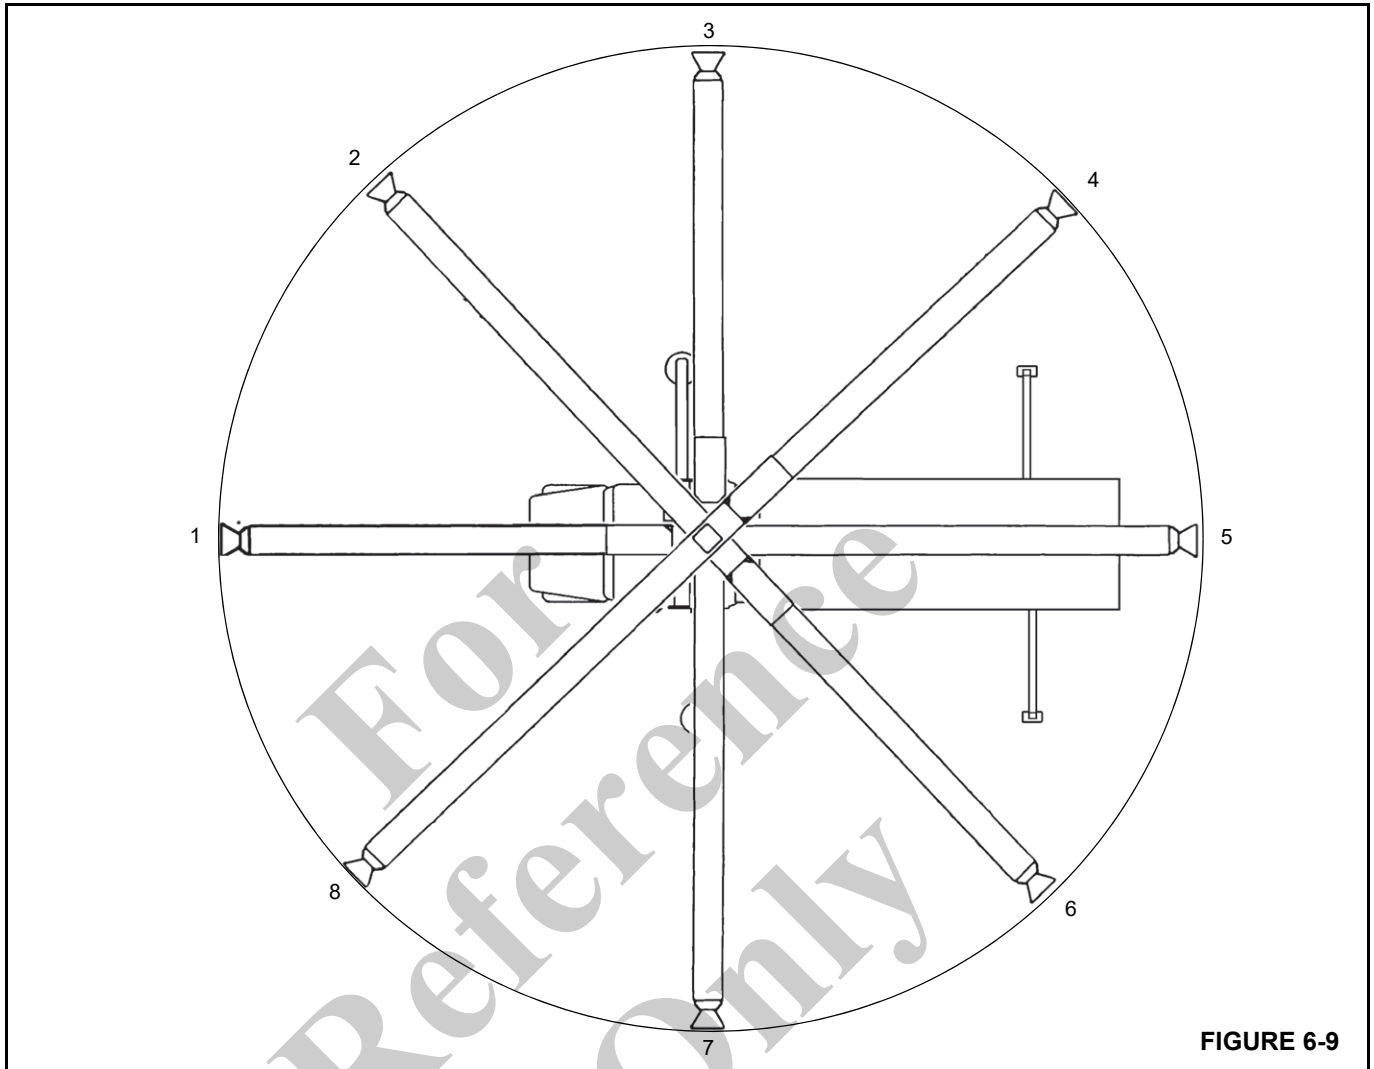

FIGURE 6-9
10. If the average is less than 0.090 in (2.3 mm), repeat the measurement at every 45° around the total working area of the crane (Figure 6-9).